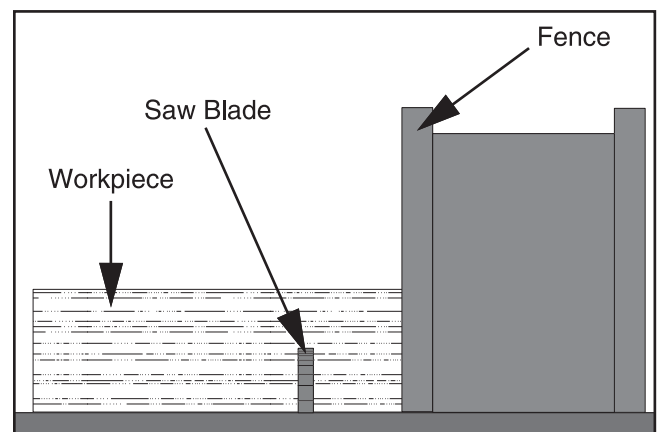

Figure 51. Rabet cutting with a standard blade.
5. Adjust the fence so the blade is aligned with the inside of your rabet channel, as shown in **Figure 51**.